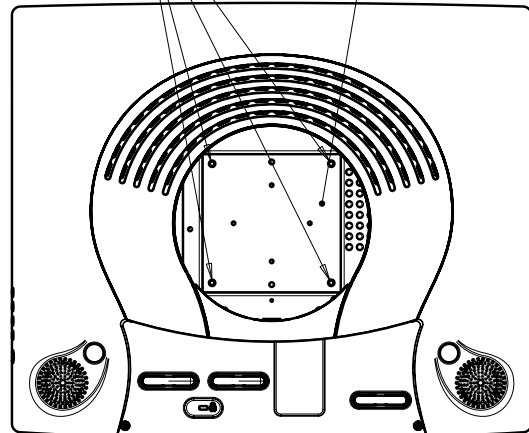

FIGURE 1: STAND AND DISPLAY SEPARATION
1. REMOVE THE FOUR SCREWS IN ORDER TO SEPARATE THE STAND FROM THE MONITOR (SEE FIGURE 1).